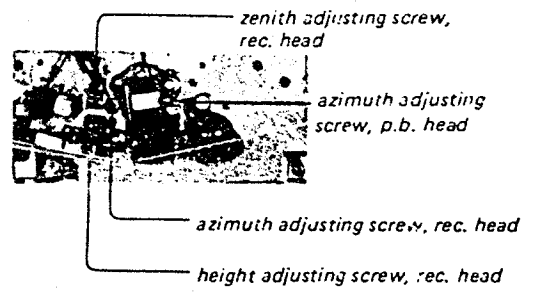

Fig. 4-3-3 Adjusting screws
| SONY adjustment tape | VTVM and 100kΩ resistor in parallel with LINE OUT jack | PLAYBACK | playback head azimuth adjusting screw See Fig. 4-3-3. | Adjust the screw to obtain maximum | | | | | | | | | | | | |
| 78 mV to MIC | VTVM and 100kΩ resistor in parallel with LINE OUT jack | RECORD | record head height, zenith and azimuth adjusting screw See Fig. 4-3-3. | 1. Turn the three screws (height, zenith and azimuth) visually horizontal. 2. Set the MONITOR switch to MONITOR. 3. Turn the height adjusting screw. Memorize the number of turns. 4. Turn the zenith and azimuth adjusting screws. 5. Follow the steps 3 and 4 to | | | | | | | | | | | | |
| 24.5μV to MIC | VTVM and 100kΩ resistor in parallel with LINE OUT jack | RECORD | record head azimuth adjusting screw See Fig. 4-3-3. | 1. Set the MONITOR switch to MONITOR. 2. Turn the azimuth adjusting screw. When the signal is maximum, read the screw, the maximum reading. | | | | | | | | | | | | |
| k head azimuth g screw e Fig. 4-3-3. | Adjust the screw to obtain maximum reading on VTVM. | | | | | | | | | | | | | | | | | | | | | | | | |
| head height, zenith and adjusting screw e Fig. 4-3-3. | 1. Turn the three screws (height, zenith and azimuth adjusting) so that the record head will be visually horizontal. 2. Set the MONITOR switch to TAPE. 3. Turn the height adjusting screw to obtain maximum reading on VTVM. Memorize the number of turns. 4. Turn the zenith and azimuth adjusting screws the same number of turns of height adjusting screw. 5. Follow the steps 3 and 4 to obtain maximum reading. | | | | | | | | | | | | | | | | | | | | | | | | |
| head azimuth adjusting e Fig. 4-3-3. | 1. Set the MONITOR switch to TAPE position. 2. Turn the azimuth adjusting screw to obtain maximum reading on VTVM. Within one turn of the screw, the maximum reading should be obtained. If not, repeat the adjustment as in the item 5. | | | | | | | | | | | | | | | | | | | | | | | | |